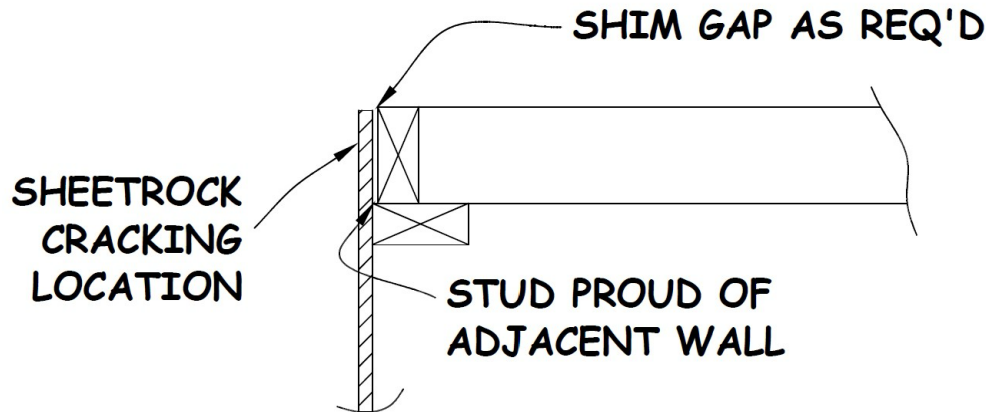

Figure 14-7. Proud Outside Corner Stud.
11. Outside corners of intersecting walls should be flush. If one corner stud is proud of the intersecting corner stud, a gap results at the corner (see Figure 14-7). To rectify, verify the problem and close the gap with cardboard shims **before securing** the sheetrock.